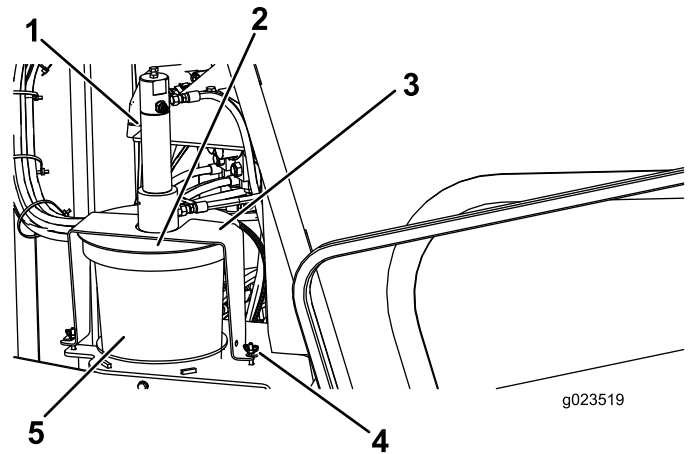

Figure 89
3. Loosen the wing nuts securing the cover straps to the machine (Figure 89).
4. Rotate the cover and pull the cover straps off the retaining bolts (Figure 89).
5. Lift the cover assembly off and out of the empty thread-joint-compound bucket (Figure 89).
7. Place the plunger into the new bucket and lower the cover assembly onto the bucket (Figure 89).
8. Slide the cover straps over the retaining bolts, and rotate the cover to seat the straps on the bolts (Figure 89).